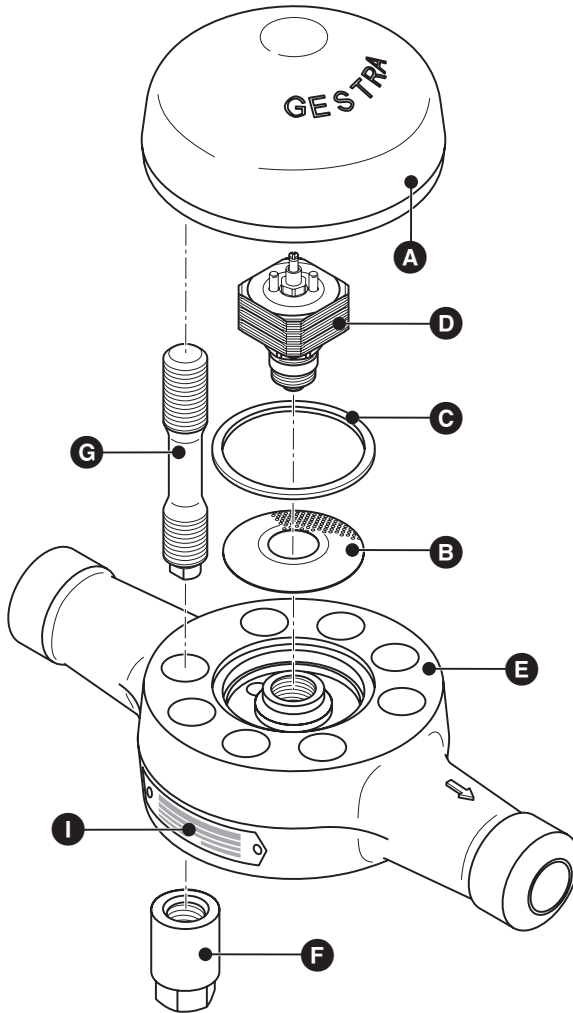
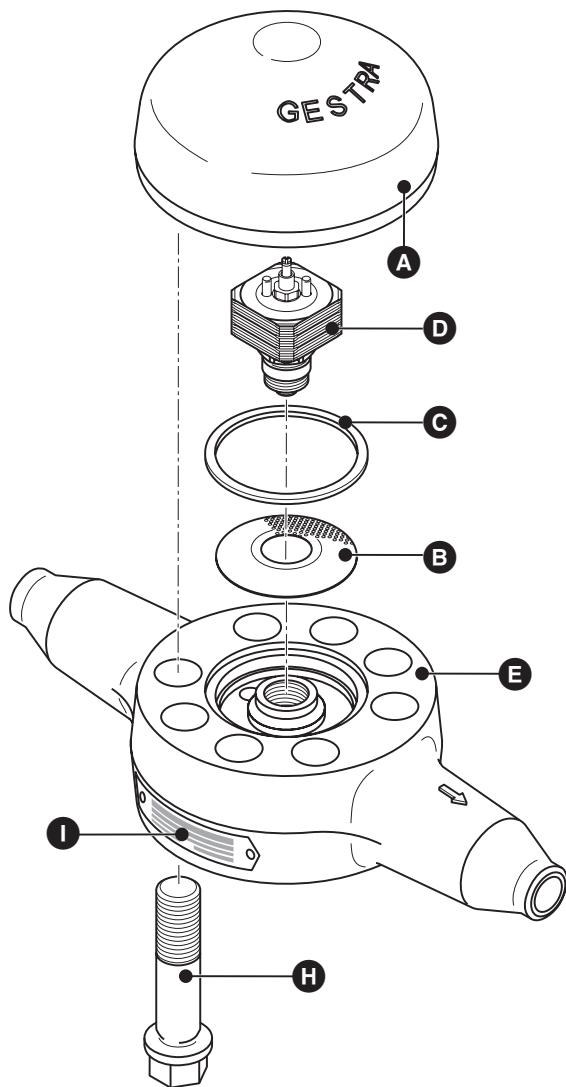

Fig. 2
Fig. 3
1. Remove cover **A** from body **E**. Fig. 2, Fig. 3